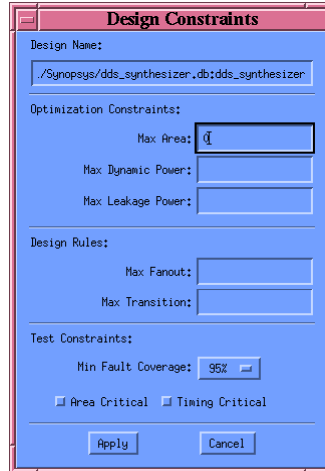

Fig. 7: Area constraints
1. Select top level module in Symbol View. Select Attributes \Rightarrow Optimization constraints \Rightarrow Design constraints (see Fig. 7)